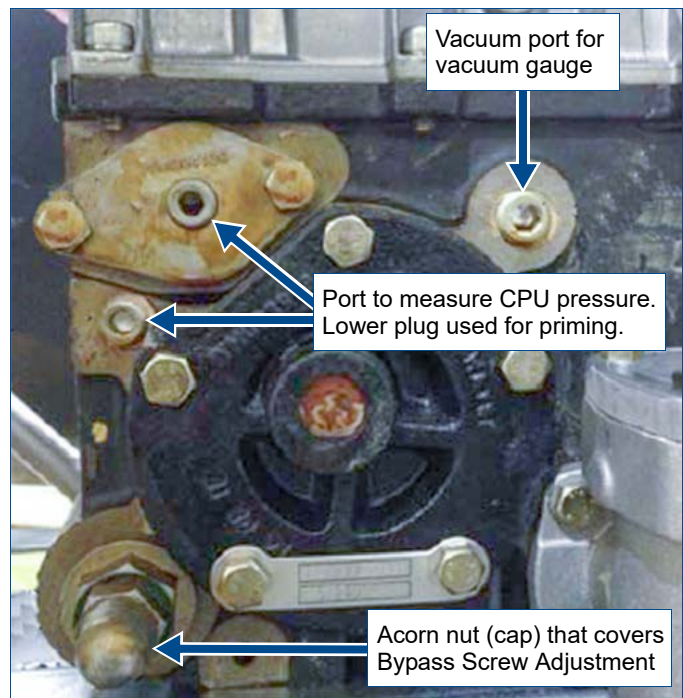

Figure D-2 CPU Ports
9. For priming, insert a small quantity of light-grade oil (1/2 pint or ¼ liter) through the priming plug in the pumping unit before starting the pump for the first time. For the location of the priming plug (see Figure D-2 below).
- To check the bypass pressure, remove the priming plug and install a pressure gauge in the priming port or upper port, see Figure D-2.